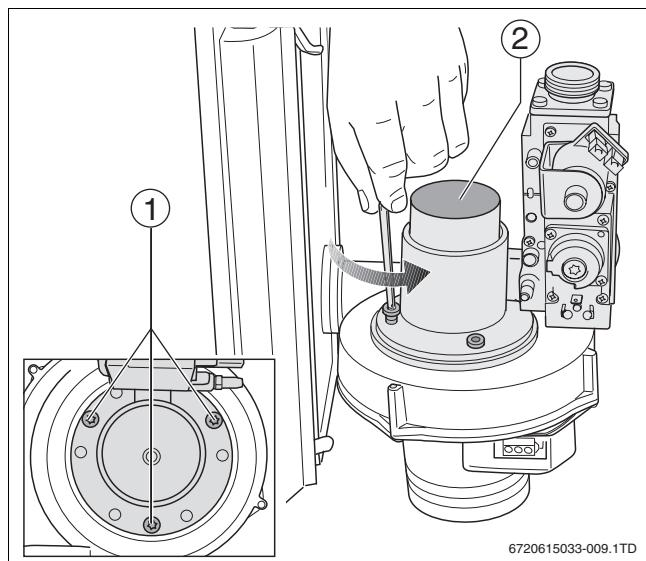

Fig. 8 Removing the screws and gas valve with venturi
- Undo the three screws (→ fig. 8, [1]) and remove the gas valve with the venturi from the fan unit (→ fig. 8, [2]).